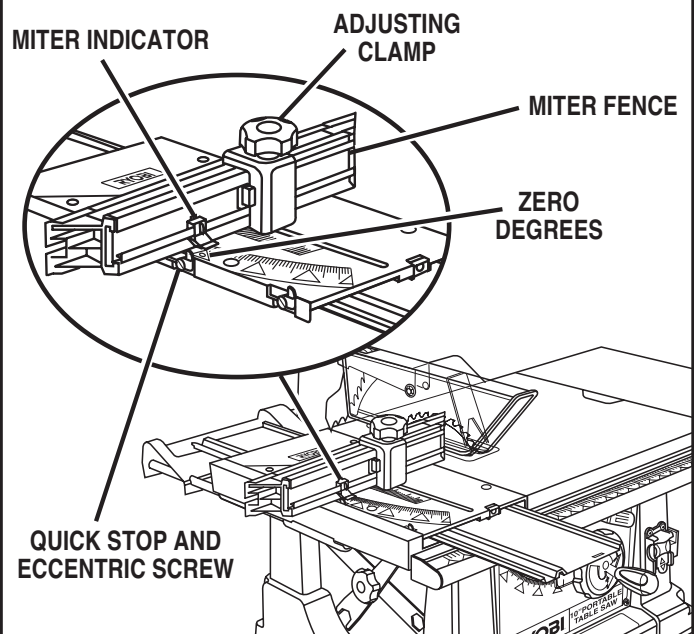

Fig. 47
- Place the quick-stop against the miter fence with miter scale set at 0°. See Figure 47.